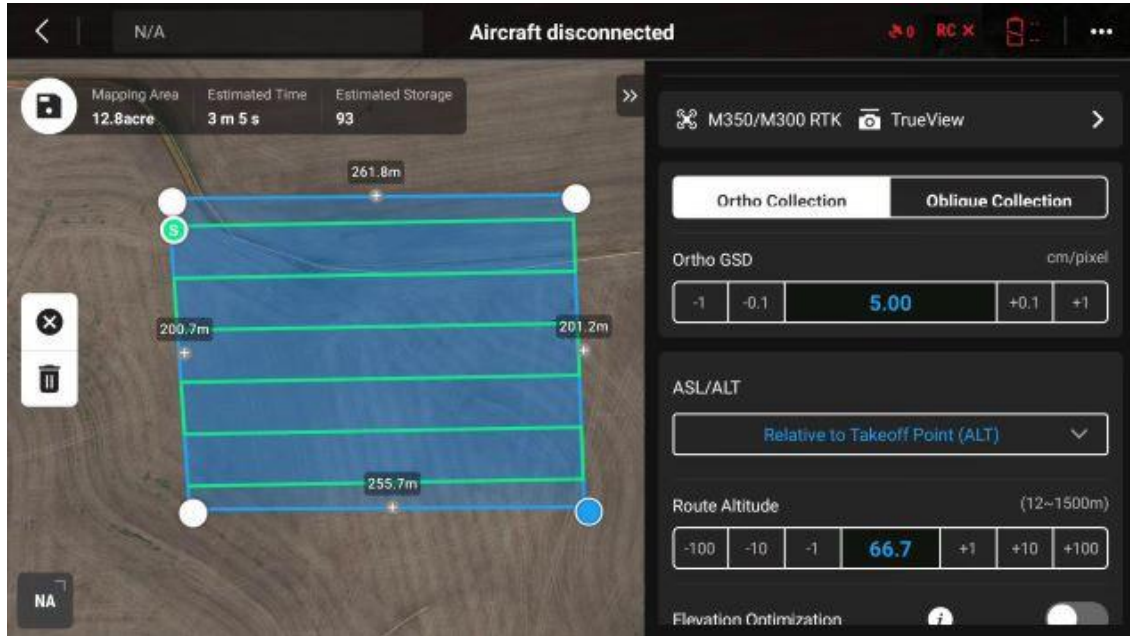

Figure 37: Pilot 2 auto flight lines
- Once you are happy with the shape of your flight boundary you can modify the settings further on the right under the “Survey” menu (Figure 37). On the first page of the menu set the altitude,
13. Once saved it is then possible to have properly spaced flight lines to be auto created by simply moving your survey polygon boundary points around the map (Figure 37). These flight lines will